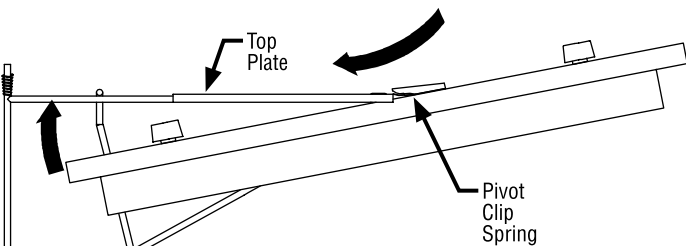

Figure 6
- 2** Continue sliding clamp towards back panel until leading edge of top plate is fully inserted beneath pivot clip spring, as shown in **Figure 6**.